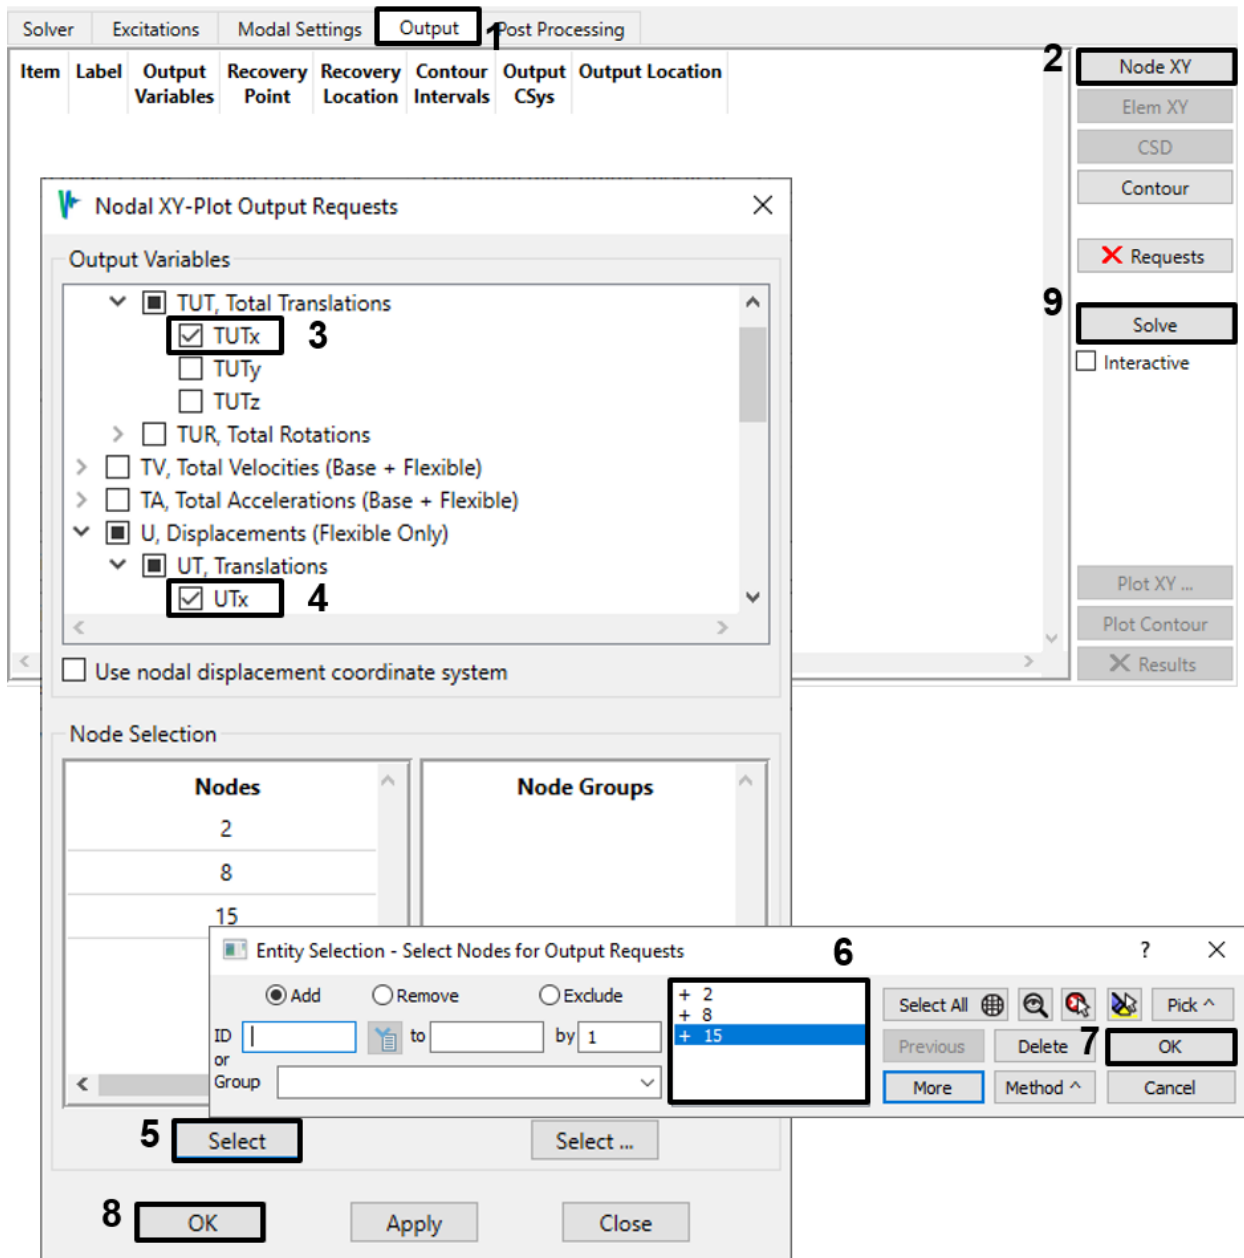

Figure 4-33. Request both flexible and total nodal X-translation plots.
- On the *Output* tab, create a Node XY output request for flexible and total X-translations (TUT_x and Utx) for the center base (node 2), center second floor (node 8) and upper right corner (node 15), as shown in Figure 4-33.